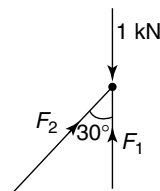

Figure 4.43
2. The value of F_1 in Figure 4.43 is:
3. The value of F_2 in Figure 4.43 is: